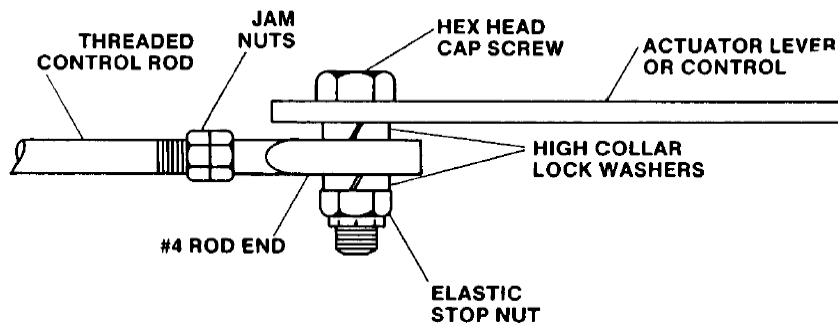

Figure 4. Control Rod Hardware Assembly
11. Obtain a 0.250-28 elastic hex nut (thin), two hi collar lock washers, and a 0.250-28 x 1.250 hex head cap screw. Use these parts to assemble the control rod to the shutdown lever using the hole drilled in step 6. Place the hi collar lock washers on either side of the size 14 rod end. (see Figure 4). Screw head must be located toward engine. Tighten the hex nut until lock washers collapse.